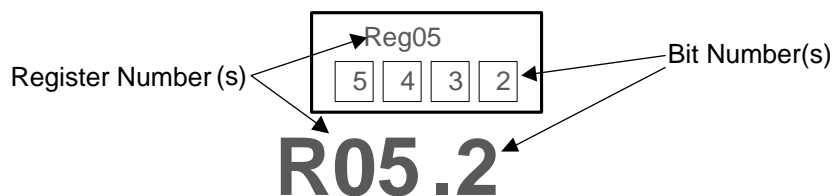

Figure 28. CDCM6208V2G Register Reference Format
Figure 28 shows the method this document employs to refer to an individual register bit or a grouping of register bits. If a drawing or text references an individual bit, the format is to specify the register number first and the bit number second. The CDCM6208V2G contains 21 registers that are 16 bits wide. The register addresses and the bit positions both begin with the number zero (0). A period separates the register address and bit address. The first bit in the register file is address 'R0.0' meaning that it is located in Register 0 and is bit position 0. The last bit in the register file is address R31.15 referring to the 16th bit of register address 31 (the 32nd register in the device)